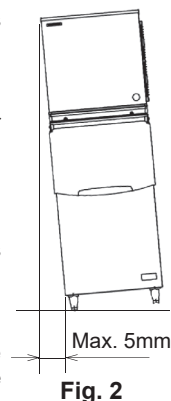

Fig. 2
- \* Level the dispenser unit/ice storage bin in both the left-to-right and front-to-rear directions. If using an ice storage bin, adjust the ice storage bin legs to level. See Fig. 2.